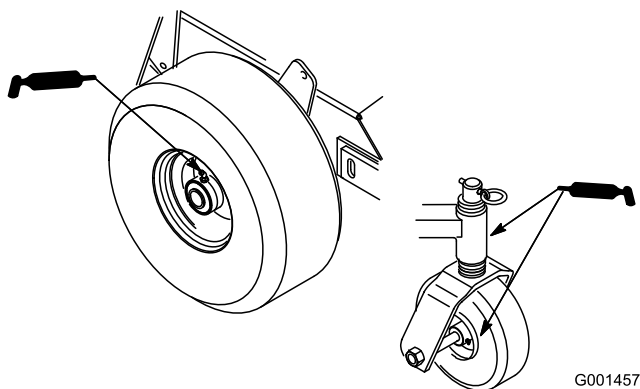

Figure 22
1. Lubricate the front wheel bearings and front spindles (Figure 22).
2. Lubricate the drive wheel bearings (Figure 22).